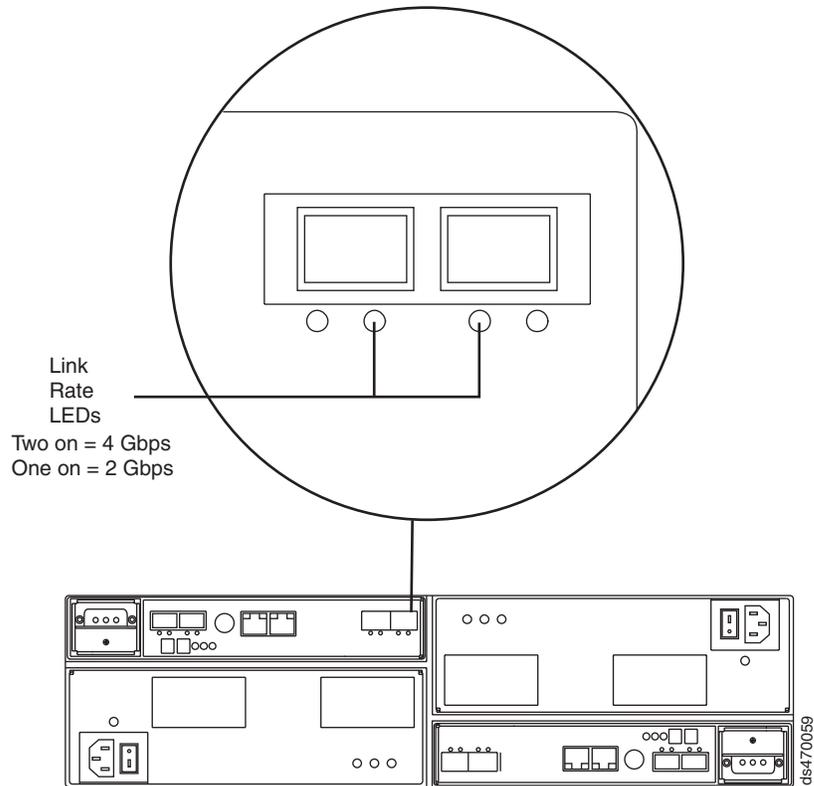

Figure 89. Link rate LEDs
2. Locate the Link Rate indicator LEDs. Figure 89 on page 131 shows the location of the Link Rate indicator lights on the back of the storage subsystem.